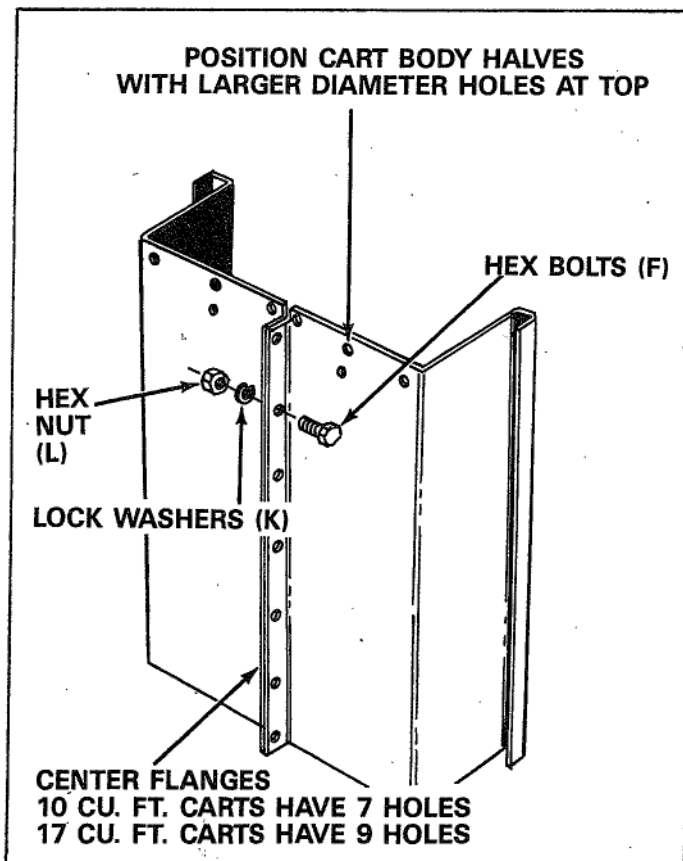

FIGURE 3
3. Position cart body halves (U and W) upright as shown in figure 3. **NOTE:** Large diameter holes to the top.
4. Start bolts (F), lock washers (K) and hex nuts (L) through flanges, only make **finger tight** until all 7 or 9 bolts are in place. See figure 3 and note below.